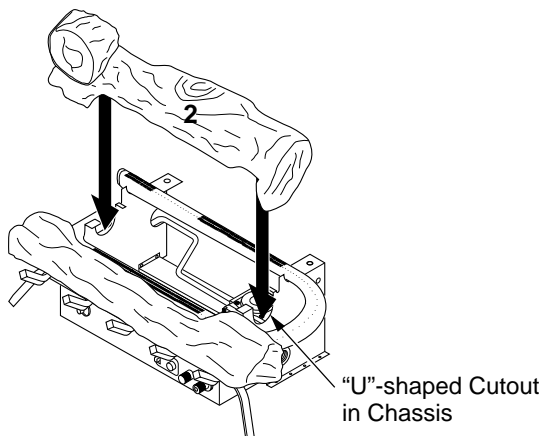

Figure 27 - Installing Golden Oak 5-Piece Log Set - Log 2
2. Rest middle log (#2) inside "U"-shaped cutouts in chassis (see Figure 27).